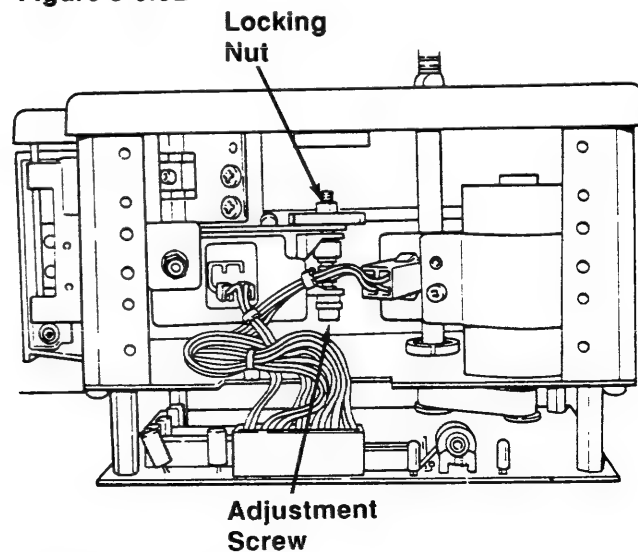

Figure 3-6.3F
1. Loosen the Locking Nut for the Amplitude Adjustment Screw and, while holding the Locking Nut, turn the Amplitude Adjustment Screw clockwise to increase the amplitude or counterclockwise to decrease clipping and distortion (Figure 3-6.3F).